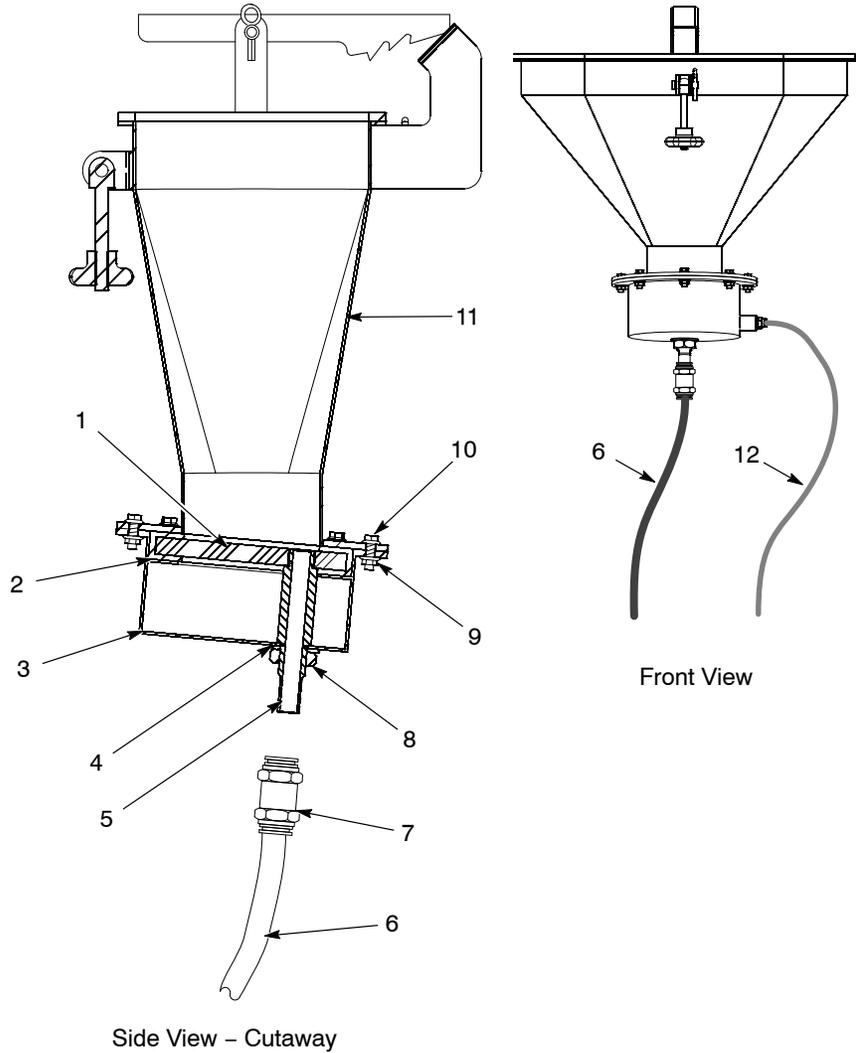

Figure 15 Transfer Pan
1. See Figure 15. Disconnect the fluidizing air tubing (12).
2. Disconnect the 16-mm powder tubing (6) from the bulkhead union (7). Remove the bulkhead union from the discharge tube (4).
3. Remove the plenum (3) from the transfer pan (11) by removing the eight bolts (10) and nuts (9).
4. Remove the jam nut (8) and sealing washer (4) from the discharge tube. Use two wrenches: one on the flats of the discharge tube and the other on the jam nut.
5. Lift the fluidizing plate (1) with gasket (2) and discharge tube out of the plenum. Unscrew the discharge tube from the fluidizing plate.